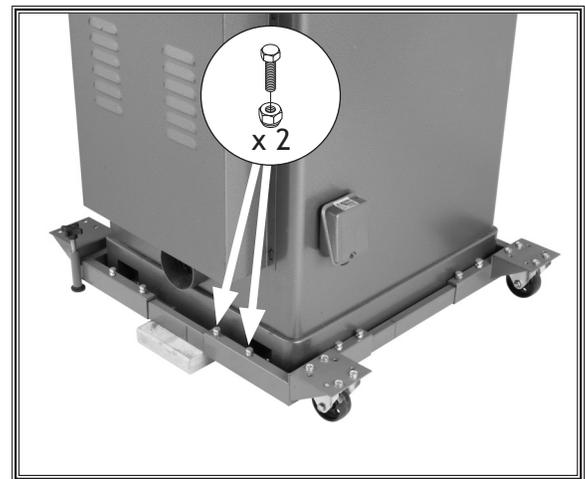

Figure 23. Rear fixed caster assembly secured to side rail (only one side shown).
18. Secure each side with (2) M8-1.25 x 16 hex bolts, and 8mm lock nuts, as shown in **Figure 23**.